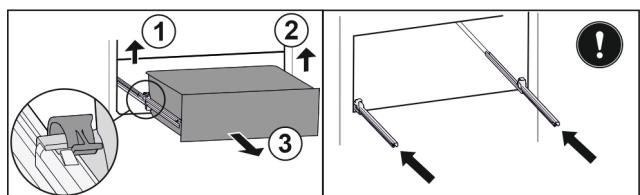

Fig. 194
- ▶ Lift left clamp and simultaneously pull drawer forwards on the left. Fig. 194 (1)
- ▶ Lift right clamp and simultaneously pull drawer forwards on the right. Fig. 194 (2)
- ▶ Remove drawer to the front. Fig. 194 (3)